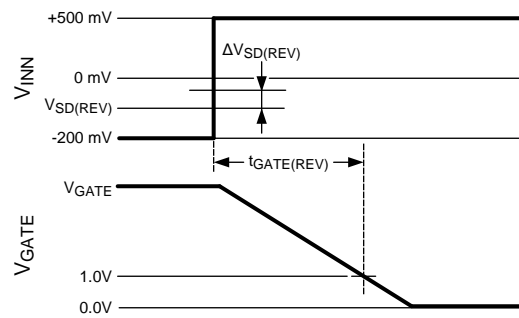

Figure 6. Gate Off Timing for  $V_{SD(REV)}$  Transition
(1) Time from  $V_{\text{INN}}$  voltage transition from  $-200\text{ mV}$  to  $+500\text{ mV}$  until Gate pin voltage falls to  $\leq 1.00\text{V}$ . See Figure 6